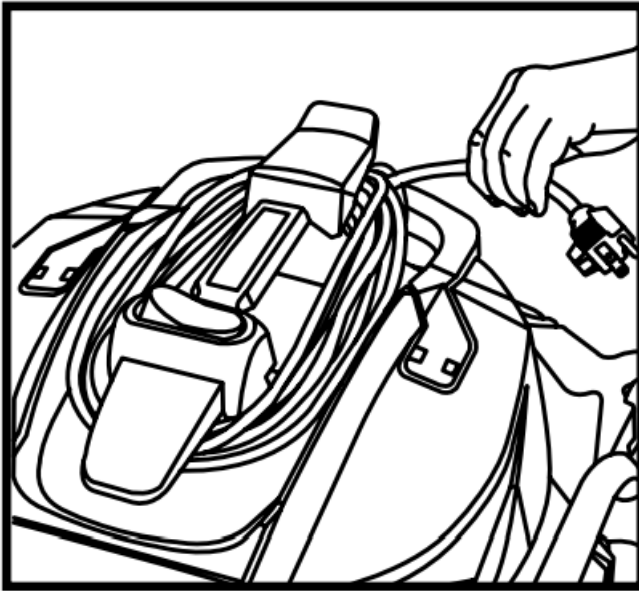

FIGURE 31
53. The power cord can be wrapped around the cord wraps provided on the top of the tank cover located in front and behind the handle. **FIGURE 31.**